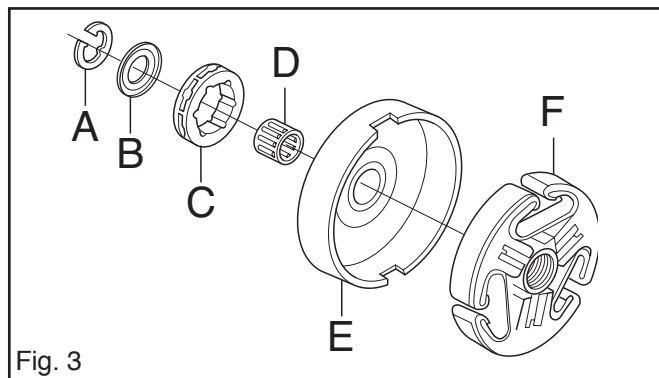

Fig. 3
6. Remove the locking ring (A) with washer (B) and lift up the clutch drum (E) with needle bearing (D) and chaindrive sprocket (C). See fig. 3.
11. Grease in the needle bearing before fitting. Fit the clutch drum (E) with needle bearing (D) and chain drive sprocket (C). See fig. 3.
12. Fit the washer (B) and locking ring (A). See fig. 3.